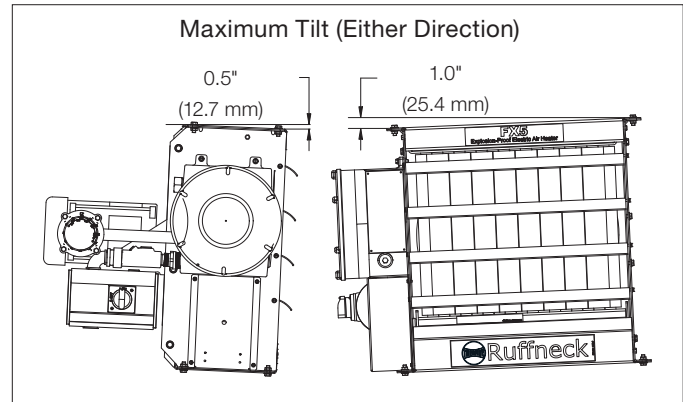

Figure 3
- 2.1 The heater must be permanently mounted in a level, upright position for operation. See Figure 3, Figure 4, and Figure 5 on page 7 and 8 for maximum tilt angles, installation clearances, and physical dimensions. For ease of installation, a variety of mounting kits are available from the factory.